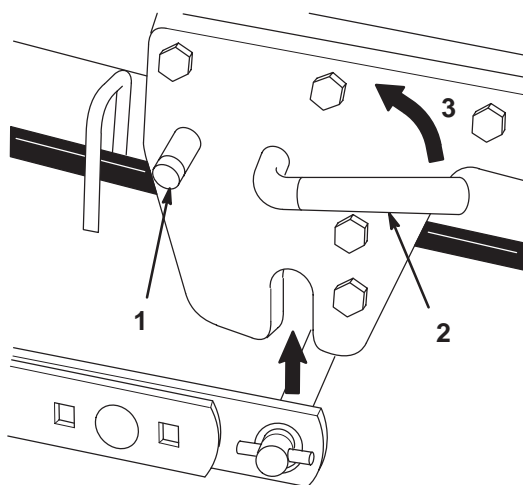

Figure 9
9. Turn the lever of the Attach-A-Matic™ counterclockwise to lock the mower to the tractor (Fig. 9).